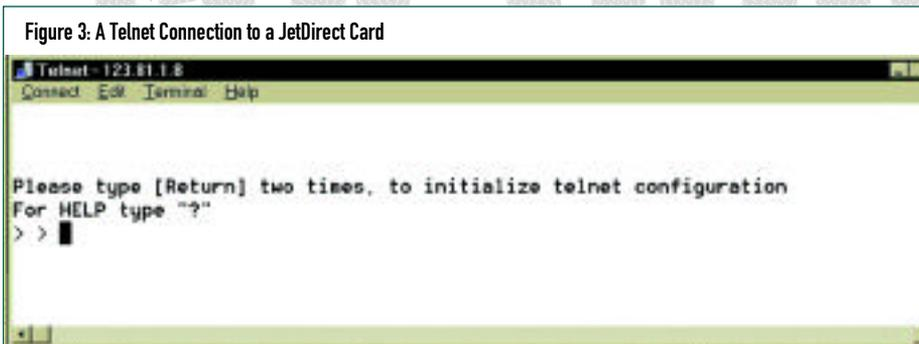

Figure 3: A Telnet Connection to a JetDirect Card
2. Wait a few seconds, and then hit the Enter key a couple of times. You should see a response from the printer like that shown in Figure 3. As instructed in the figure, again press the Enter key twice. You will then get a single ">" prompt. At this point you have established a Telnet session with the printer.